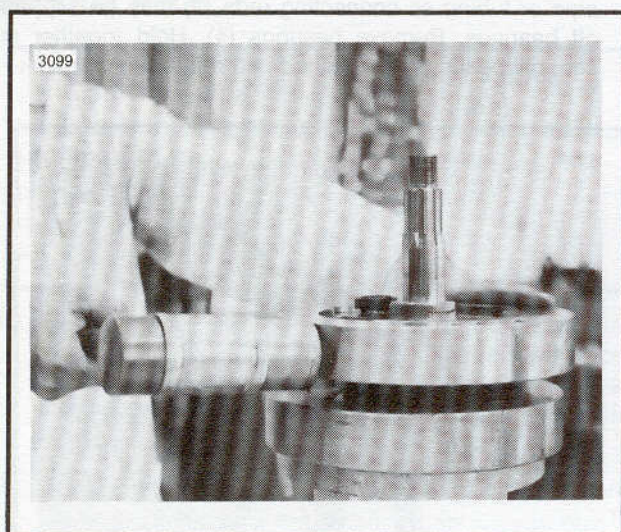

Figure 3-62. Loosen Flywheels
3. See Figure 3-62. Remove left flywheel assembly.
4. Hold down bearing assembly with a short length of pipe or tubing so connecting rods (3) may be slipped off bearings. Remove bearings (4). Hold together in set until bearings are washed and refitted to crankpin.